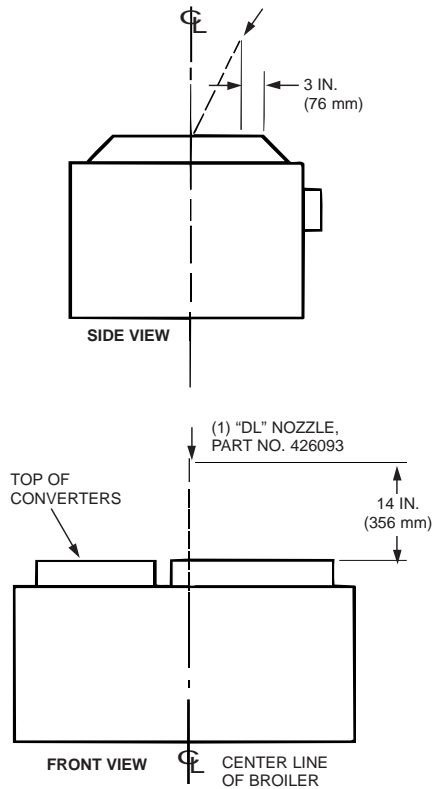

FIGURE 28
- ▶ • **Nozzle Quantity/Type:** (1) one “DL” nozzle, Part No. 426093.
- **Nozzle Height:** 14 in. (356 mm) above top of converter. See Figure 28.
- **Nozzle Location:** 3 in. (76 mm) back from front edge of converters. See Figure 28.
- **Nozzle Aiming Point:** Aimed at center of broiler top. See Figure 28.